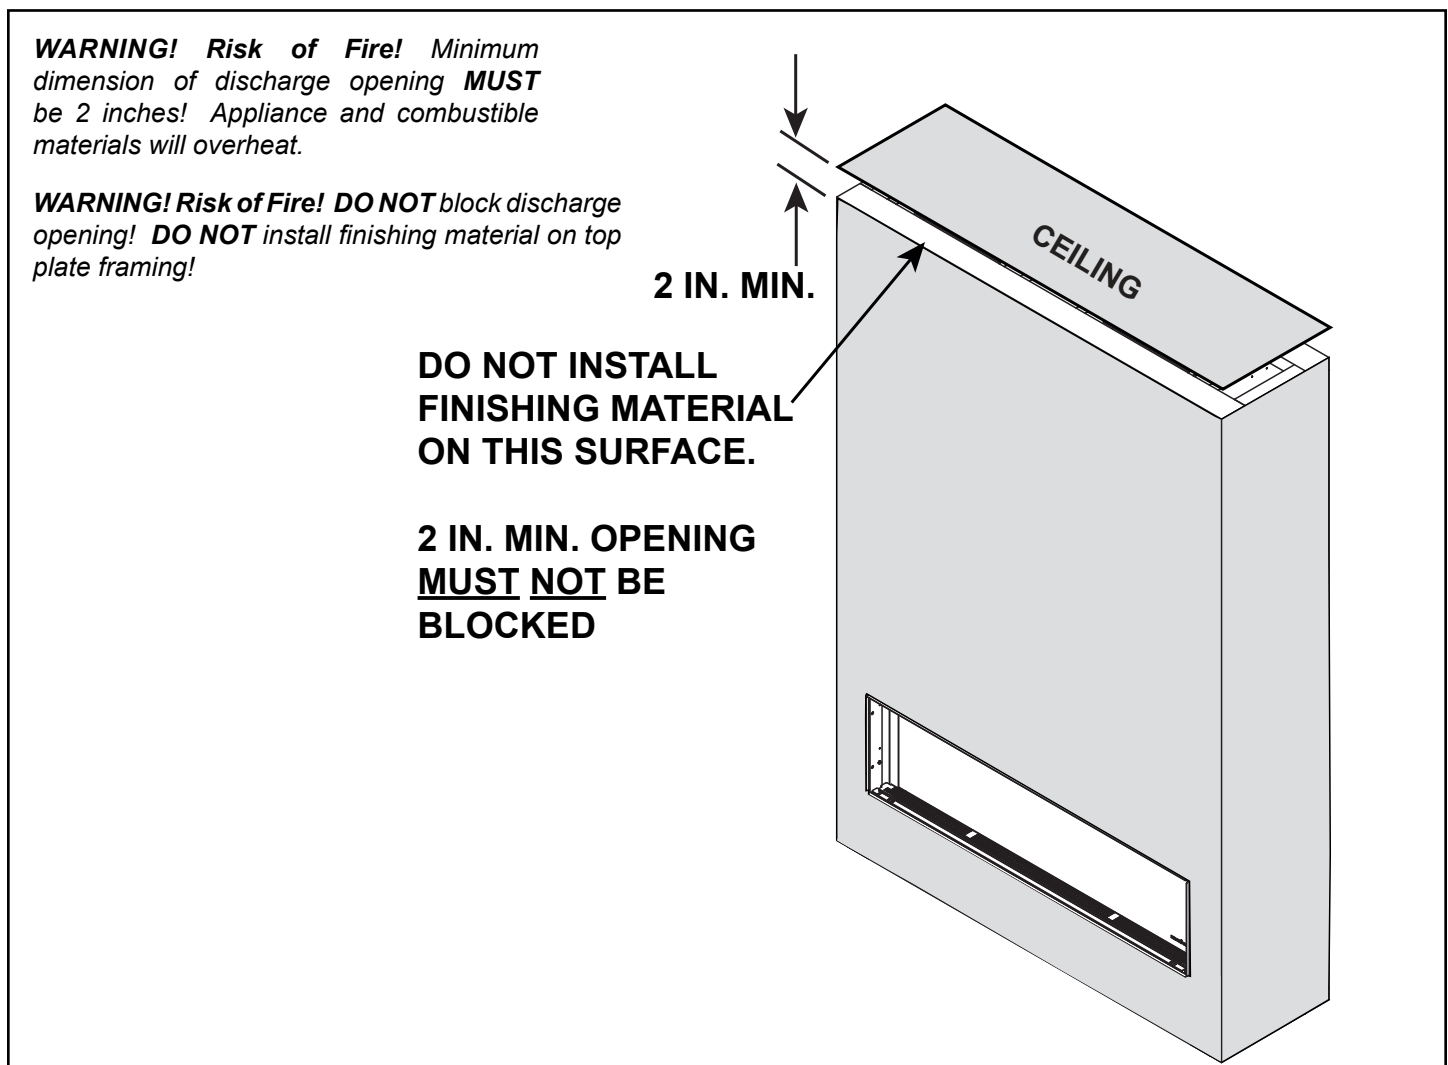

Figure 8.26 Open Top Discharge Finished Wall
1. Apply wall sheathing material up to ½ inch thick around the chase making sure that the gap measuring a minimum of 2 inches from the top of the chase to the room ceiling remains unblocked. No drywall or other finishing material can be installed on the top plate framing. See Figure 8.26.